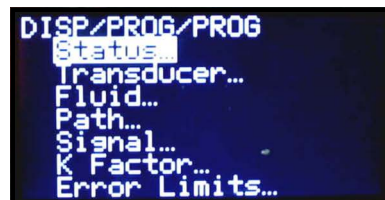

Figure 36: The PROG Menu
3. Use the **[▲]** and **[▼]** keys to scroll to the desired channel and press **[ENT]**. The screen appears similar to Figure 36 below.